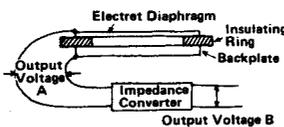

FIGURE 2A—Condenser
**Condenser Generating Elements.** The diaphragm of a condenser microphone is a movable plate of a condenser (capacitor), a common component in electrical circuits (Figure 2A). When polarized by applying a direct current voltage, motion of a diaphragm in relation to a fixed backplate produces an output voltage. The extremely high impedance of the condenser generating element is matched to typical inputs by an impedance converter in the microphone. Condenser microphones, many of which are capable of very wide frequency response, have been widely used in recording studios for years. For the performer, due to their relatively high output level, condensers may produce input overload distortion (distortion caused by too great an input signal to a mixer) unless appropriate precautions are taken.